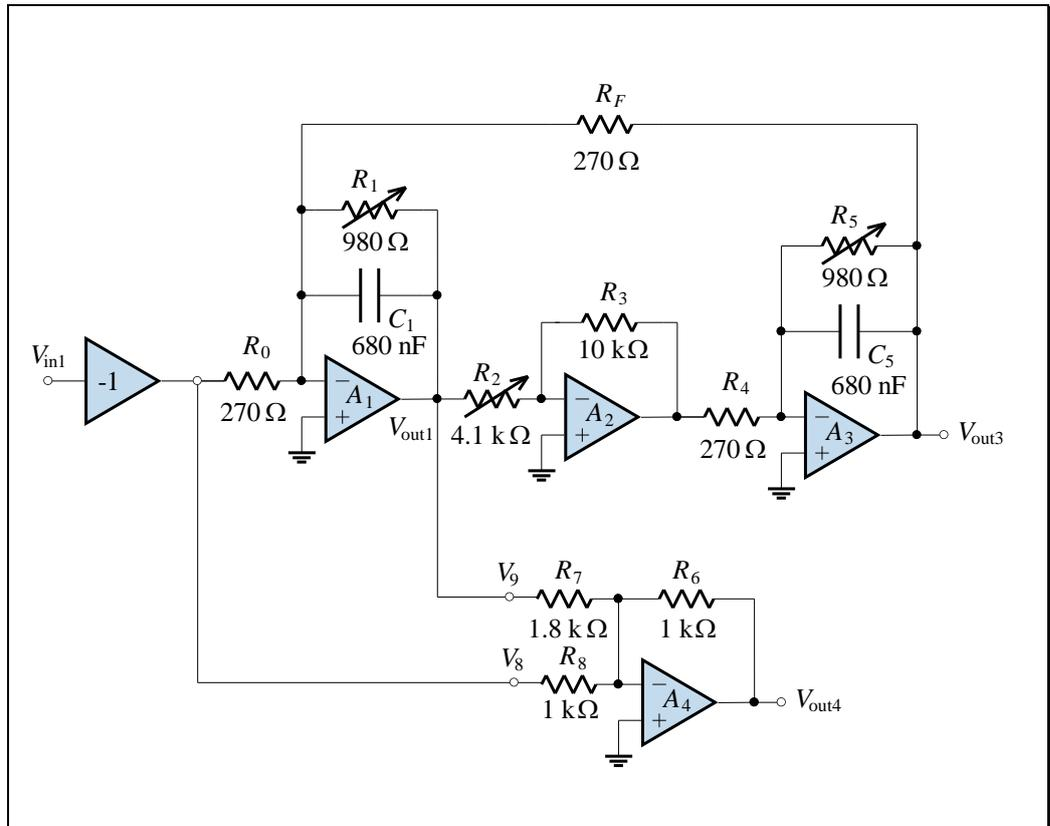

Figure L5.3
8. From your block diagram of Figure L5.3, and for the *special* case of when  $R_1 = R_5$ ,  $C_1 = C_5$  and  $R_F = R_4$ , show that the transfer function  $T_2(s) = V_{\text{out1}}(s)/V_{\text{in1}}(s)$  can be put in the form:
10. For the element values shown in Figure L5.3, complete the following tables (provide numerical values and sketch appropriate graphs).
11. Perform **frequency responses** and **unit-step responses** of the state variable filter at the labelled voltage outputs shown in Figure L5.3.
2. Examine the circuit in Figure L5.3 to determine its input impedance. Now set the AWG output Load setting to match the input impedance of the circuit. This will ensure that the amplitude settings on the AWG display will match the actual physical voltage appearing at the AWG terminals.
3. Set up the SVF to give the circuit of Figure L5.3. To implement the inverter shown in Figure L5.3, use the DSO's "invert channel 2" function.